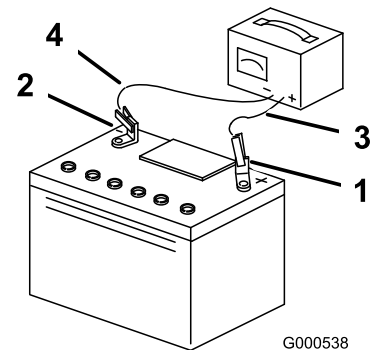

Figure 42
- When the battery is fully charged, unplug the charger from the electrical outlet, then disconnect the charger leads from the battery posts (Figure 42).